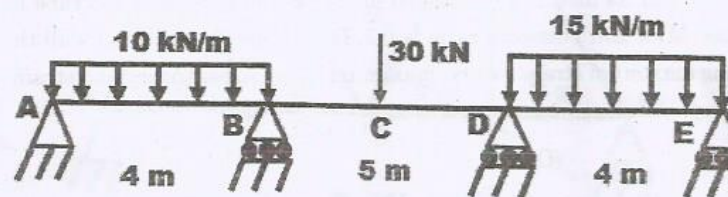

Fig. 2.
16. a) A continuous beam is subjected to loads as shown in Fig. 2 Determine the support reactions by applying Clapeyron's three moment theorem.
- b) Determine the support reactions of the beam shown in Fig. 2 using moment distribution method.